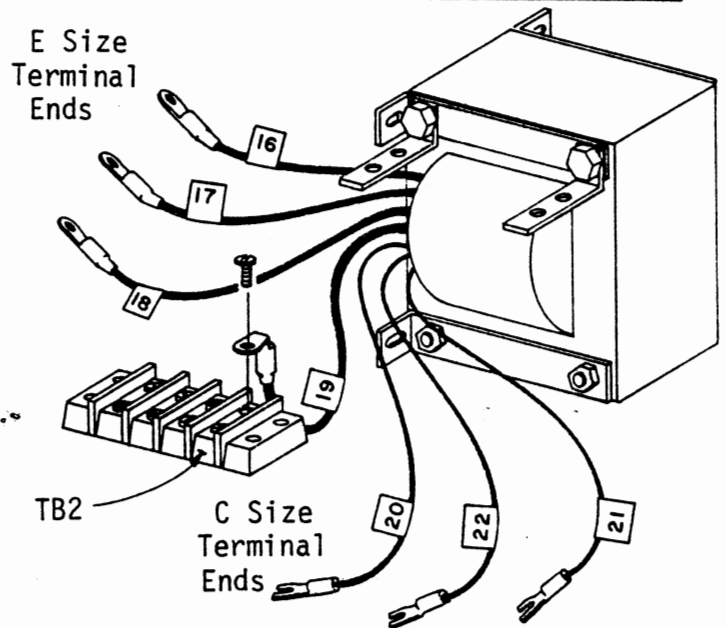

Figure 5-56. Terminal End Attachment
- ✓ 2. Attach an E size terminal end with heat shrink tubing (see Paragraph 5-58) to each of the four black transformer wires and label the wires 16-17-18-19, beginning with the top wire (Figure 5-56).
- ✓ 3. Attach a C size terminal end to each of the three remaining secondary wires (Figure 5-56). Label the two yellow wires 20 and 21, and label the yellow/green wire 22.
- ✓ 4. Bend each of the E size terminal ends at a right angle as shown in Figure 5-56. Mount the four black wires to one side of the 4-terminal block (TB2), using the screws provided.